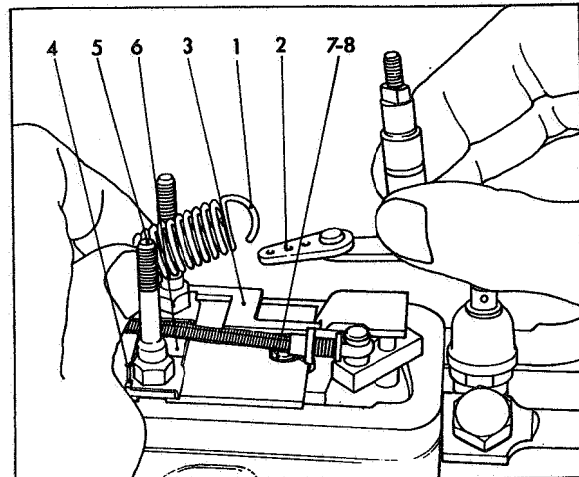

Fig 69 Dismantling throttle link
Unhook and remove governor spring (1) Fig 69 from idling spring guide and throttle shaft link (2). Remove idling spring and idling spring guide. Remove shut-off bar (3). Press down tabs on tab washers (4). Remove control cover studs (5), tab washers, keep plate (6), bracket screw and washer (7 & 8).